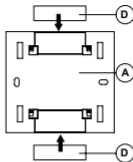

Fig 4.
You can also affix locking plate A (fig. 4) onto a smooth/level surface (no metal surface) by means of the self-adhesive strips (D).